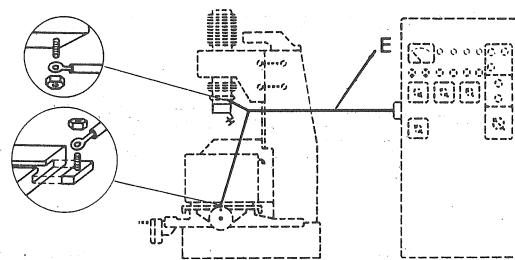

Fig 20
13. Connect the machining cable (E) to the machine, the black lead to the magnetic chuck, the yellow lead to the table (fig. 20).